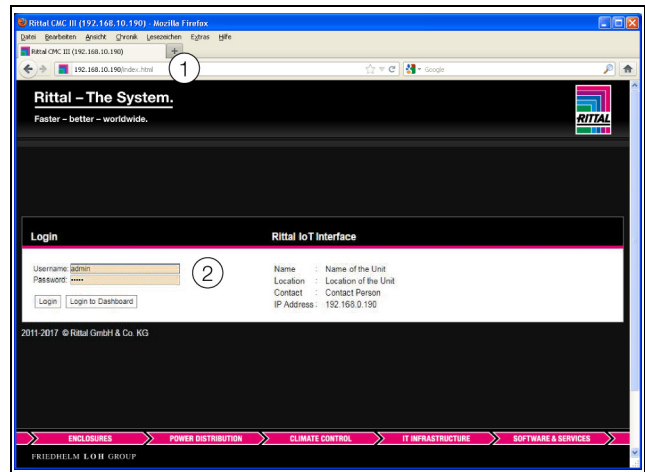

Fig. 9: Login page for an HTTP connection
- Enter the IP address in the browser (fig. 9, item 1). The login dialogue to log in to the device will be displayed.
- Login as **admin** user with password **admin** (fig. 9, item 2).